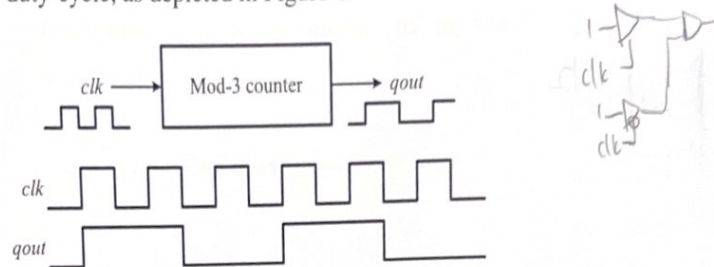

Figure 1: Block diagram and waveform of Problem 5.
5. (20%) Consider a modulo-3 counter that generates one output pulse per three input pulses. Assume that the input pulse (*clk*) is a 50-% duty-cycle signal, and the output pulse (*qout*) must be also 50-% duty-cycle, as depicted in Figure 1.